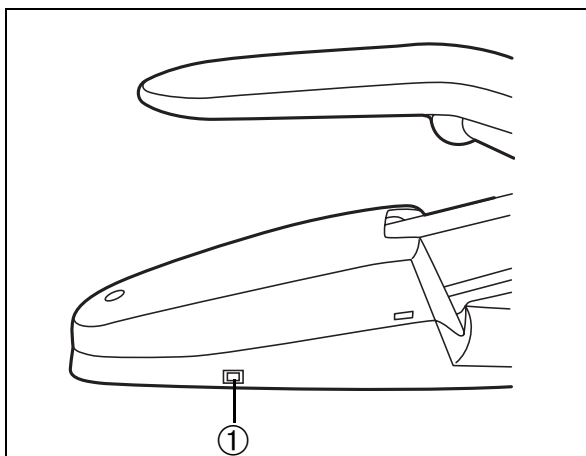

Fig. 7
The main switch ① is located beneath one side of the chair (Fig. 7).